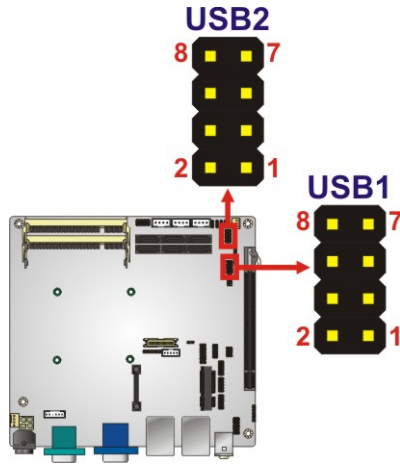

Figure 3-21: USB Connector Pinout Locations
- CN Location:** See **Figure 3-21**